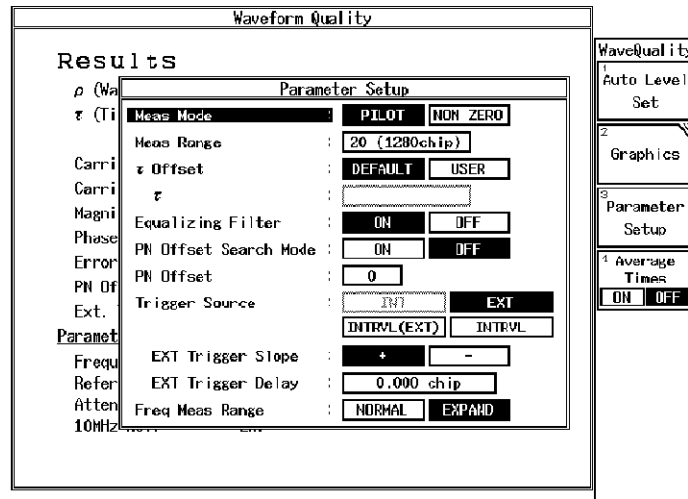

Figure 6-3 Setting of Measurement Parameter for Forward Link Waveform Quality Test
- On the R3267 Series, set the measurement parameter as shown in Figure 6-3.